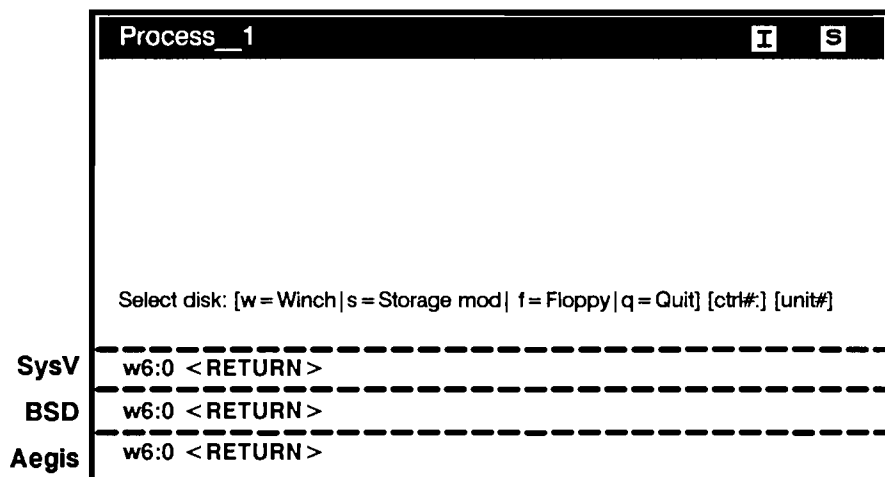

Figure 6-20. *invol* Prompt for Identity of First Disk in Set
5. The **invol** utility prompts for the identity of the first disk in the multidisk set as shown in Figure 6-20.